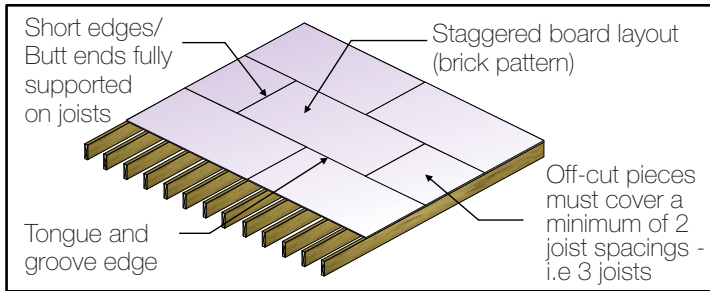

FIGURE 3 - BOARD LAYOUT - STAGGERED PATTERN
- Depending on the application, the board layout may be in a staggered or squared pattern (see Figures 3 and 4 below).